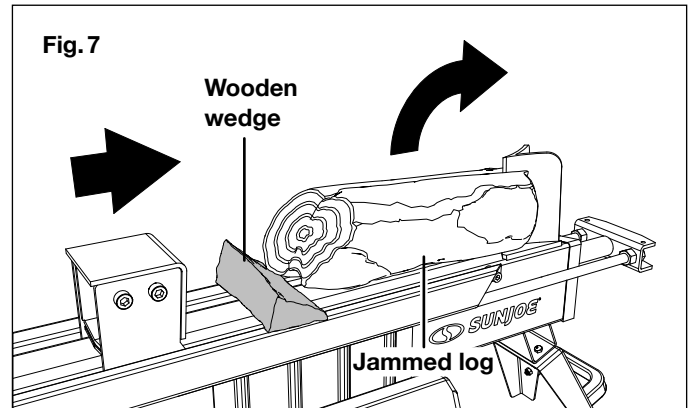

Fig. 7
2. Insert a wooden wedge under the jammed log (Fig. 7).